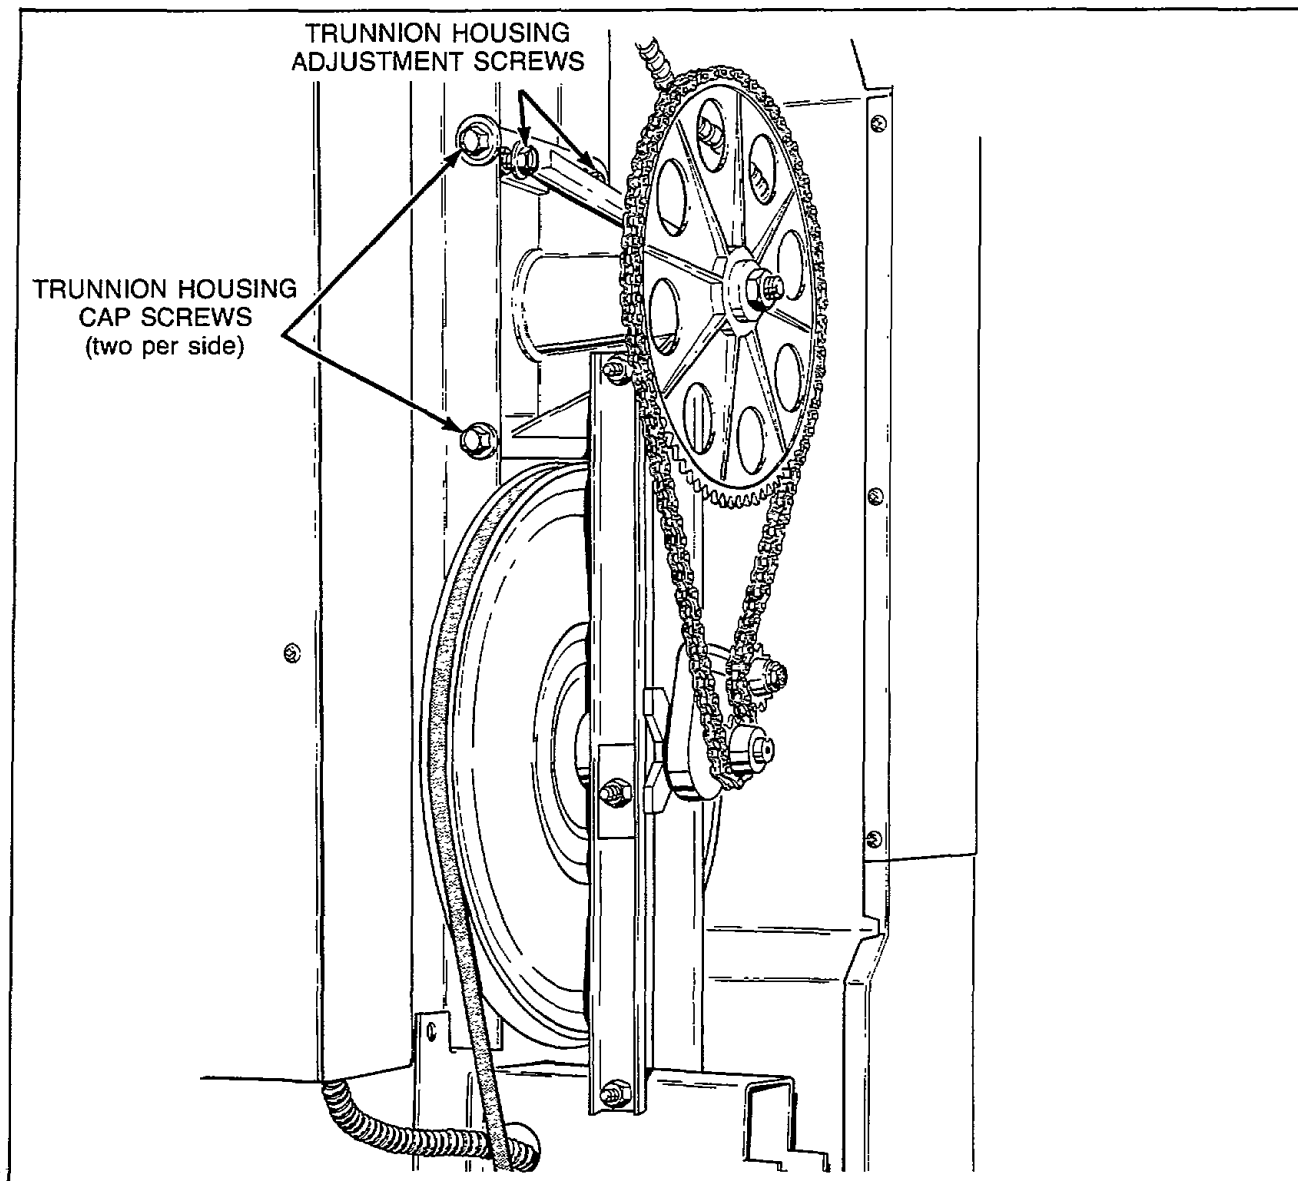

Figure 38
40. DRIVE V-BELT TENSION (Figure 38)
- c. Loosen the four trunnion housing cap screws, *Figure 38*.
- d. Loosen the locknuts on the trunnion housing adjustment screws, *Figure 38*.